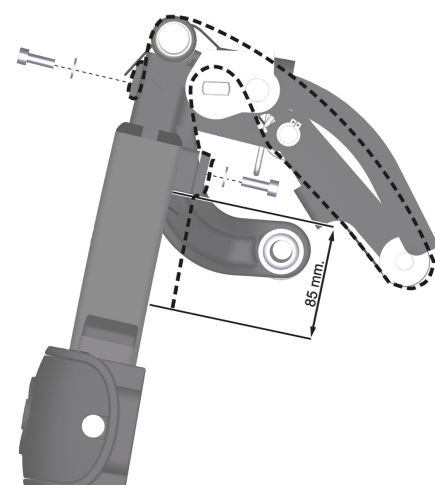

Figure 141. Strap assembly on the leg rest.
3. Remove one end of the leg rest strap by carefully raising the lower section of the leg rest slightly and at the same time removing the two screws on the front of the leg rest. Pull the assembling plate out of the loop of the strap. See fig. 141.